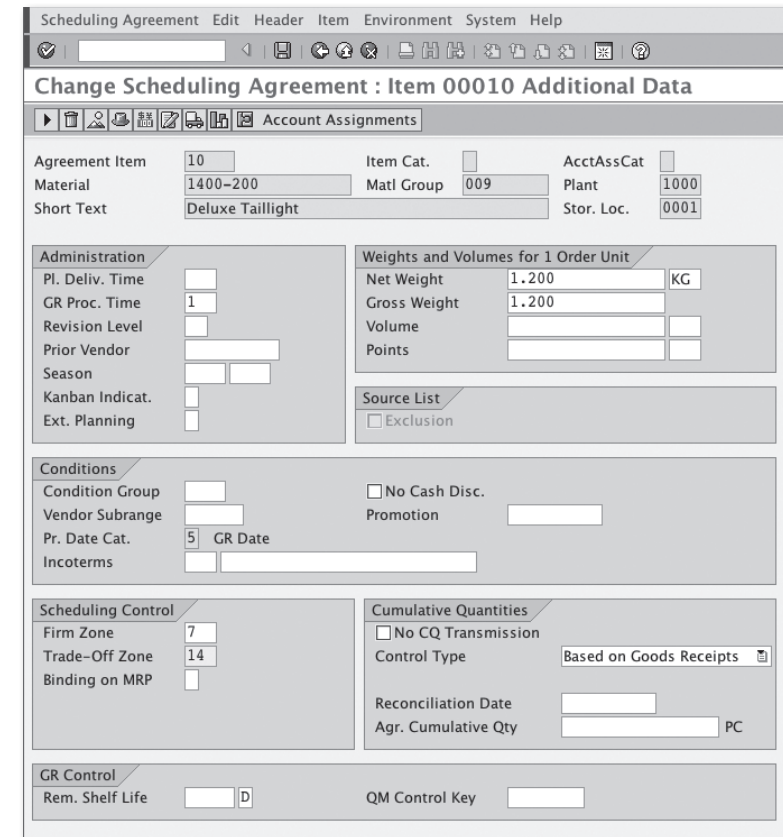

Figure 4.22 Entering the Duration for the Firm Zone and Trade-Off Zone
2. Select the menu option ITEM • MORE FUNCTIONS • ADDITIONAL DATA, and enter the duration for the FIRM ZONE and the TRADE-OFF ZONE. Everything after the trade-off zone is considered the forecast zone (see Figure 4.22).